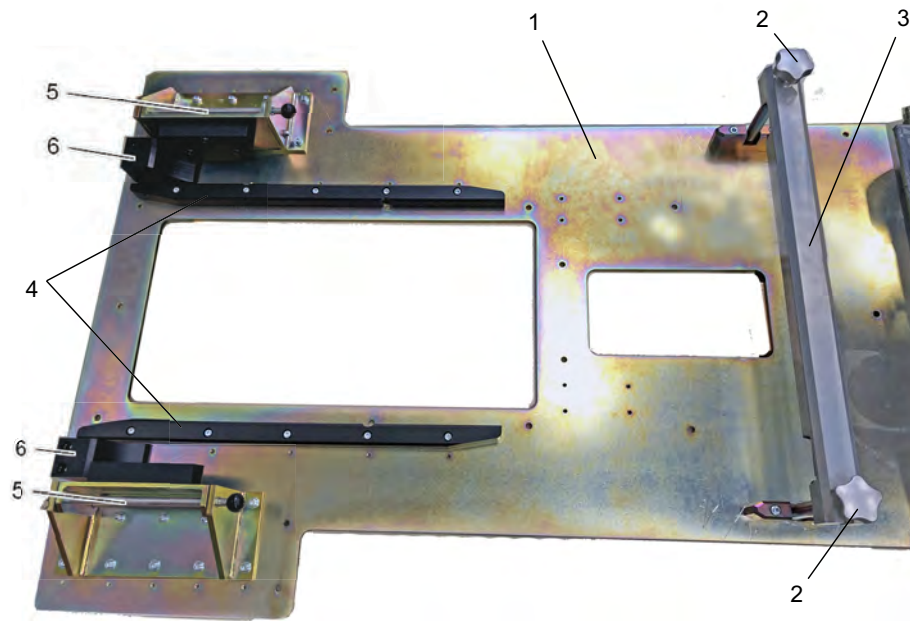
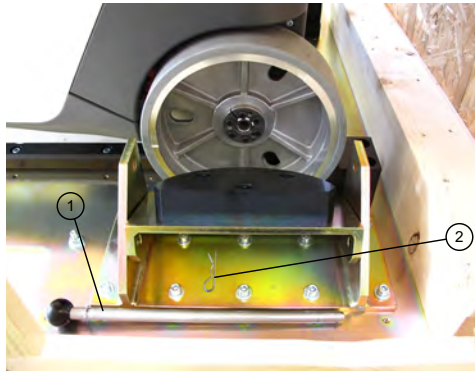

Fig. 8-11 Transport plate for fixing the device in the truck
Fig. 8-13 Wheel clamp with pin and splint
- Push the MODULITH® SLK onto the plate with the large wheels in front until both front wheels touch the wheel stops (FIG. 8-11 /6).
- Close the wheel clamps, lock them with the pin (FIG. 8-11 /1) and secure the pin with the splint (FIG. 8-13 /2).